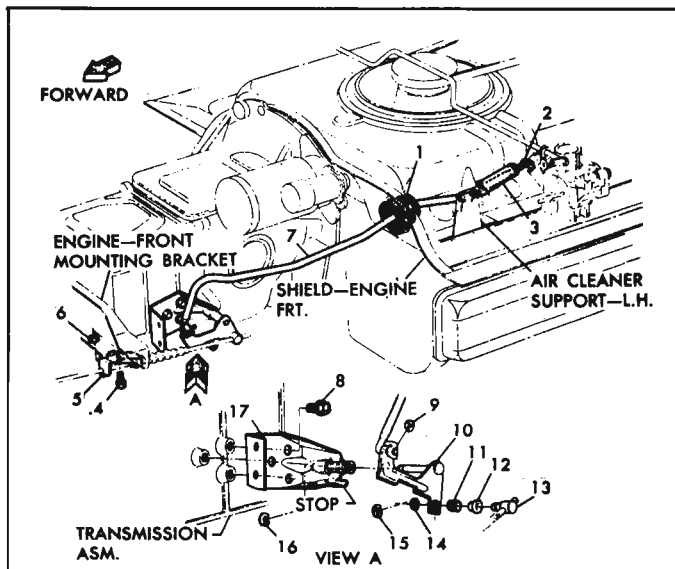

Fig. 9-29—Accelerator Linkage
3. Disconnect swivel (13, fig. 9-29) from lever (10).
4. Disconnect swivel (2, fig. 9-29) from the left carburetor cross-shaft lever (E, fig. 9-8).
5. Pull accelerator rod (7, fig. 9-29) to wide open throttle position (carburetor throttle lever against the stop) on automatic transmissions rotate lever assembly until internal stop is at full detent, and hold in that position. Grasp cross-shaft assembly throttle valve link (rod) (lower end and pull rearward toward rear of vehicle) until carburetors are in wide open throttle position. Adjust swivel (2, fig. 9-29) to align hole in lever on cross-shaft (fig. 9-8). Lengthen accelerator rod swivel (2, fig. 9-29) five full turns.